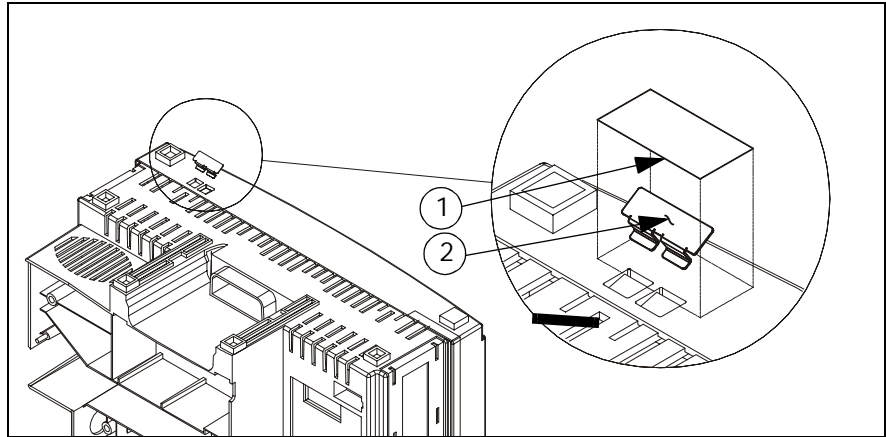

Figure 3-6a Latch Locking Clips on Bottom of Monitor (only one shown)
- 3 Turn monitor topside down, as shown in Figure 3-6a if locking clips are installed. If locking clips are not installed, go to step 5.
- 4 Peel off and save tape (① in Figure 3-6a) and remove and save locking clips (② in Figure 3-6a) from the two latches on the bottom of the monitor.